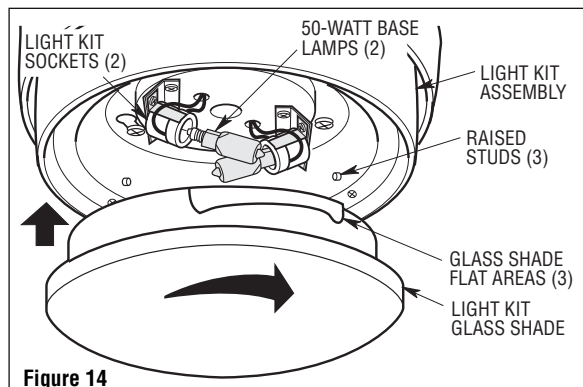

Figure 14
7. **If light kit assembly is to be used as a down light**, screw in two 50-watt (maximum) mini-candelabra base halogen lamps (supplied) into the light kit assembly light sockets (Figure 14).
8. Place the light kit glass shade into the light kit assembly, aligning the three flat areas on the top flange of the glass shade with the three raised studs in the light kit assembly. Then turn the glass shade clockwise until it stops and is secure (Figure 14).